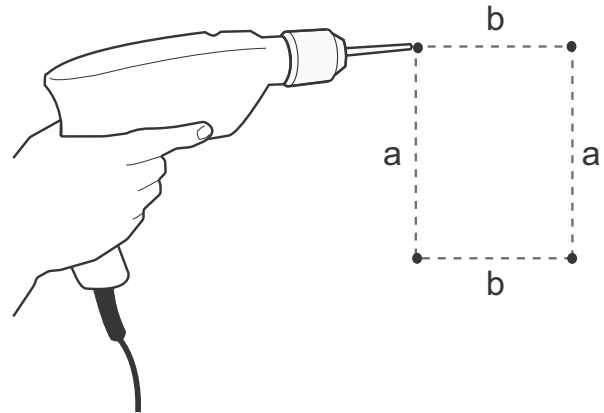

Fig. 7 Drilling of holes in the wall
2. Drill the holes. See fig. 7.